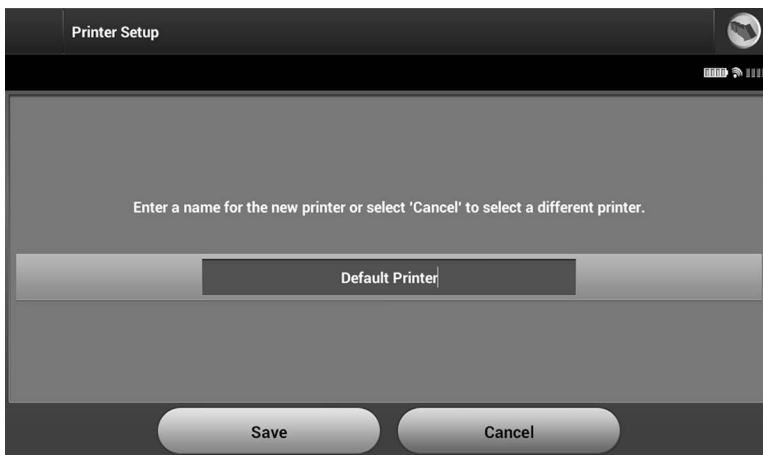

Figure 11: Use the on-screen keyboard to enter a name for the selected printer
5. Select the desired printer name and enter the name using the on-screen keyboard (up to 15 characters). A unique printer identifier should appear with the printer selection (Figure 11).